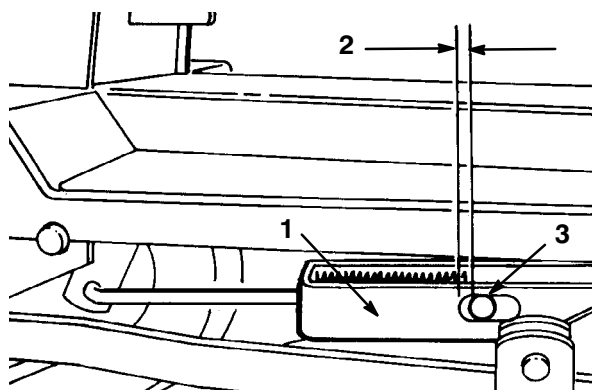

Figure 38
- Rotate the adjustment rod until there is 0.06 in. (1.5 mm) or less between the end of the slot in the engagement bracket and the outer diameter of the pin (Fig. 38).